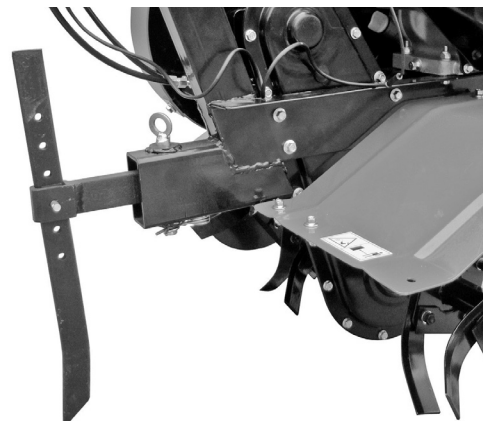

Figure 6
- By adjusting height of damping lever, tilling depth can be adjusted. Specifically, adjusting the lever downward will increase tilling depth, and adjusting it upward will decrease tilling depth. (See Fig. 6).